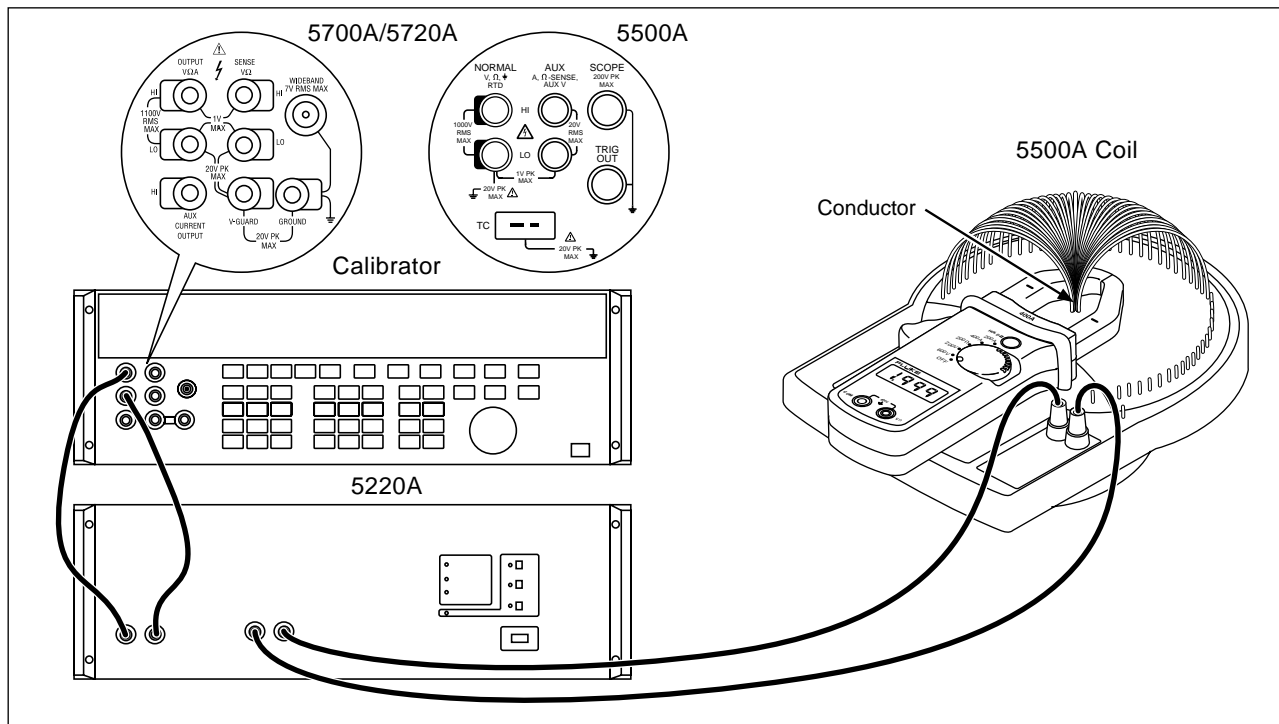

Figure 1. Calibration Equipment Configuration
1. Configure the test equipment as shown in Figure 1.
2. Set the meter to the 200A AC range. Clamp the meter around the 5500A coil conductor bundle as shown in Figure 1. Center the jaws on the coil using the indicator marks on the jaws of the meter and adjust VR2 to indicate “191.0” on the display (adjusting to 191.0 amps ensures that the clamp meets accuracy specifications where response roll-off occurs).
To perform a performance check on the meter, set up the test equipment as shown in Figure 1. Referring to Table 2, set the 5700A calibrator controls as shown, and verify that the meter readings fall between the high and low limits for each range.